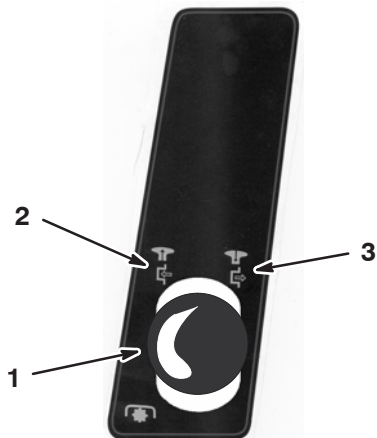

Figure 10
4. Disengage the blades (PTO). Refer to Figure 10.
5. When starting a cold engine, shift the throttle control lever to the Choke position (Fig. 10).